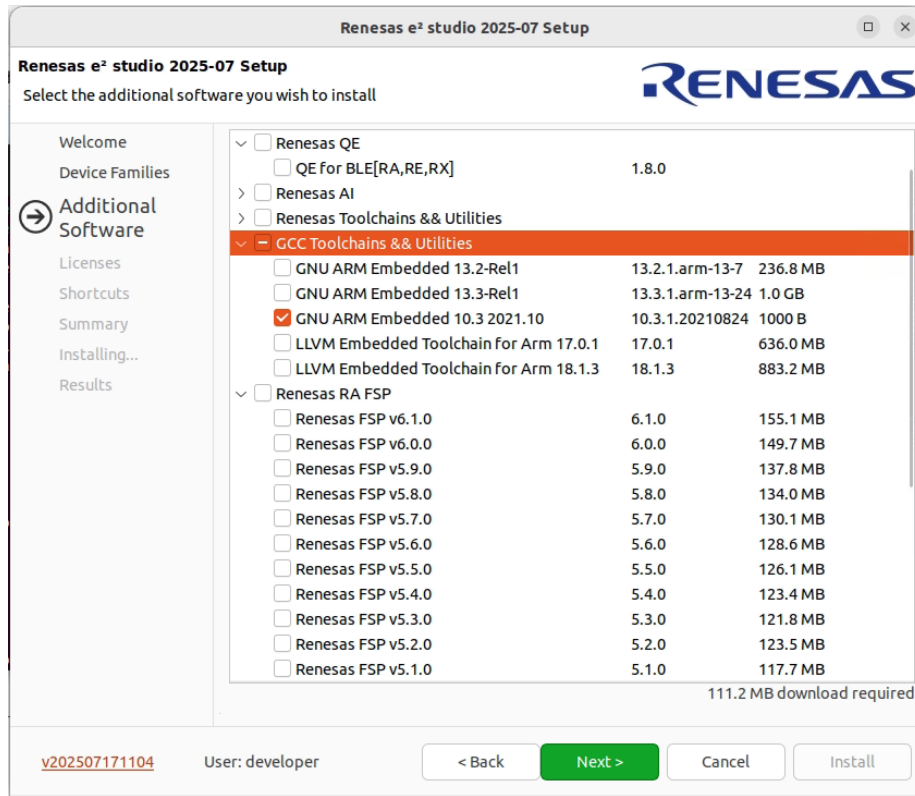

Figure 68. Device families
4. On the **Additional Software** step, expand **GCC Toolchains and Utilities**, select the **GNU ARM Embedded 10.3** checkbox, click **Next > Install**, see Figure 68.